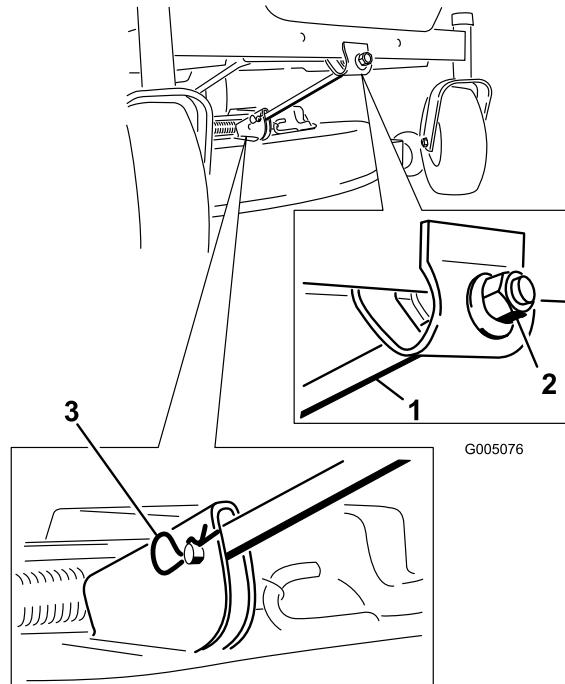

Figure 51
- 4. Remove the hairpin cotter and clevis pin from the front support rod (Figure 51). Carefully lower the front of the mower deck to the ground.
6. Attach the front support rod to the mower deck with the clevis pin and hairpin cotter (Figure 51).